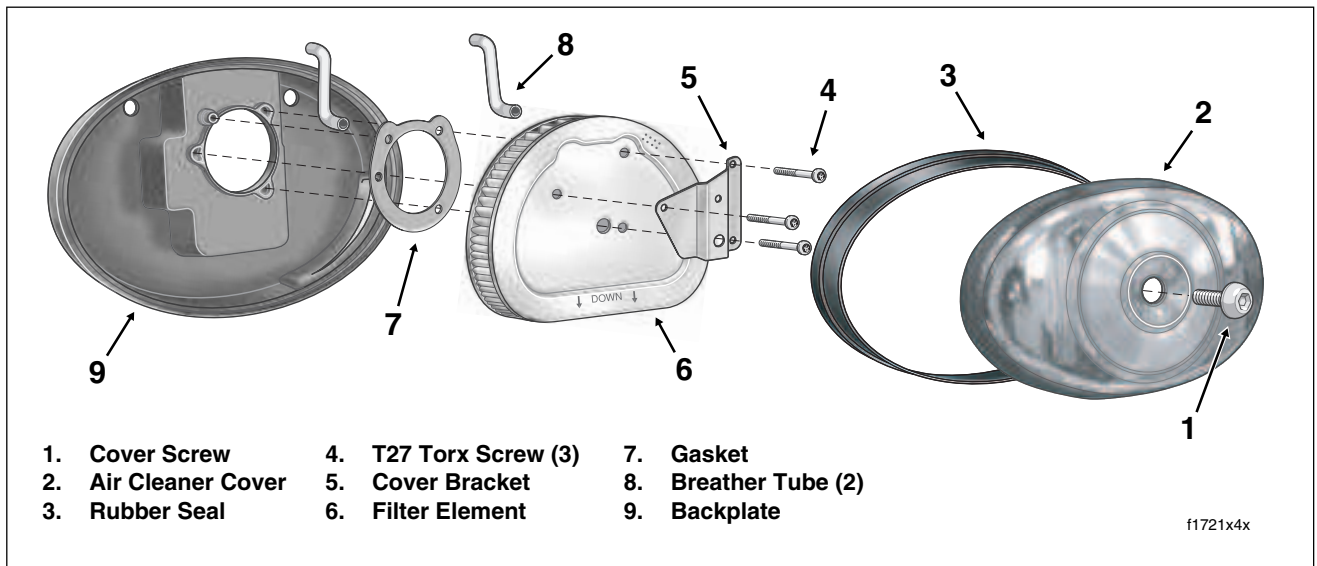

Figure 1-3. Air Cleaner Assembly
1. Remove large allen head socket screw in center of air cleaner cover. Remove air cleaner cover with rubber seal. See Figure 1-3.